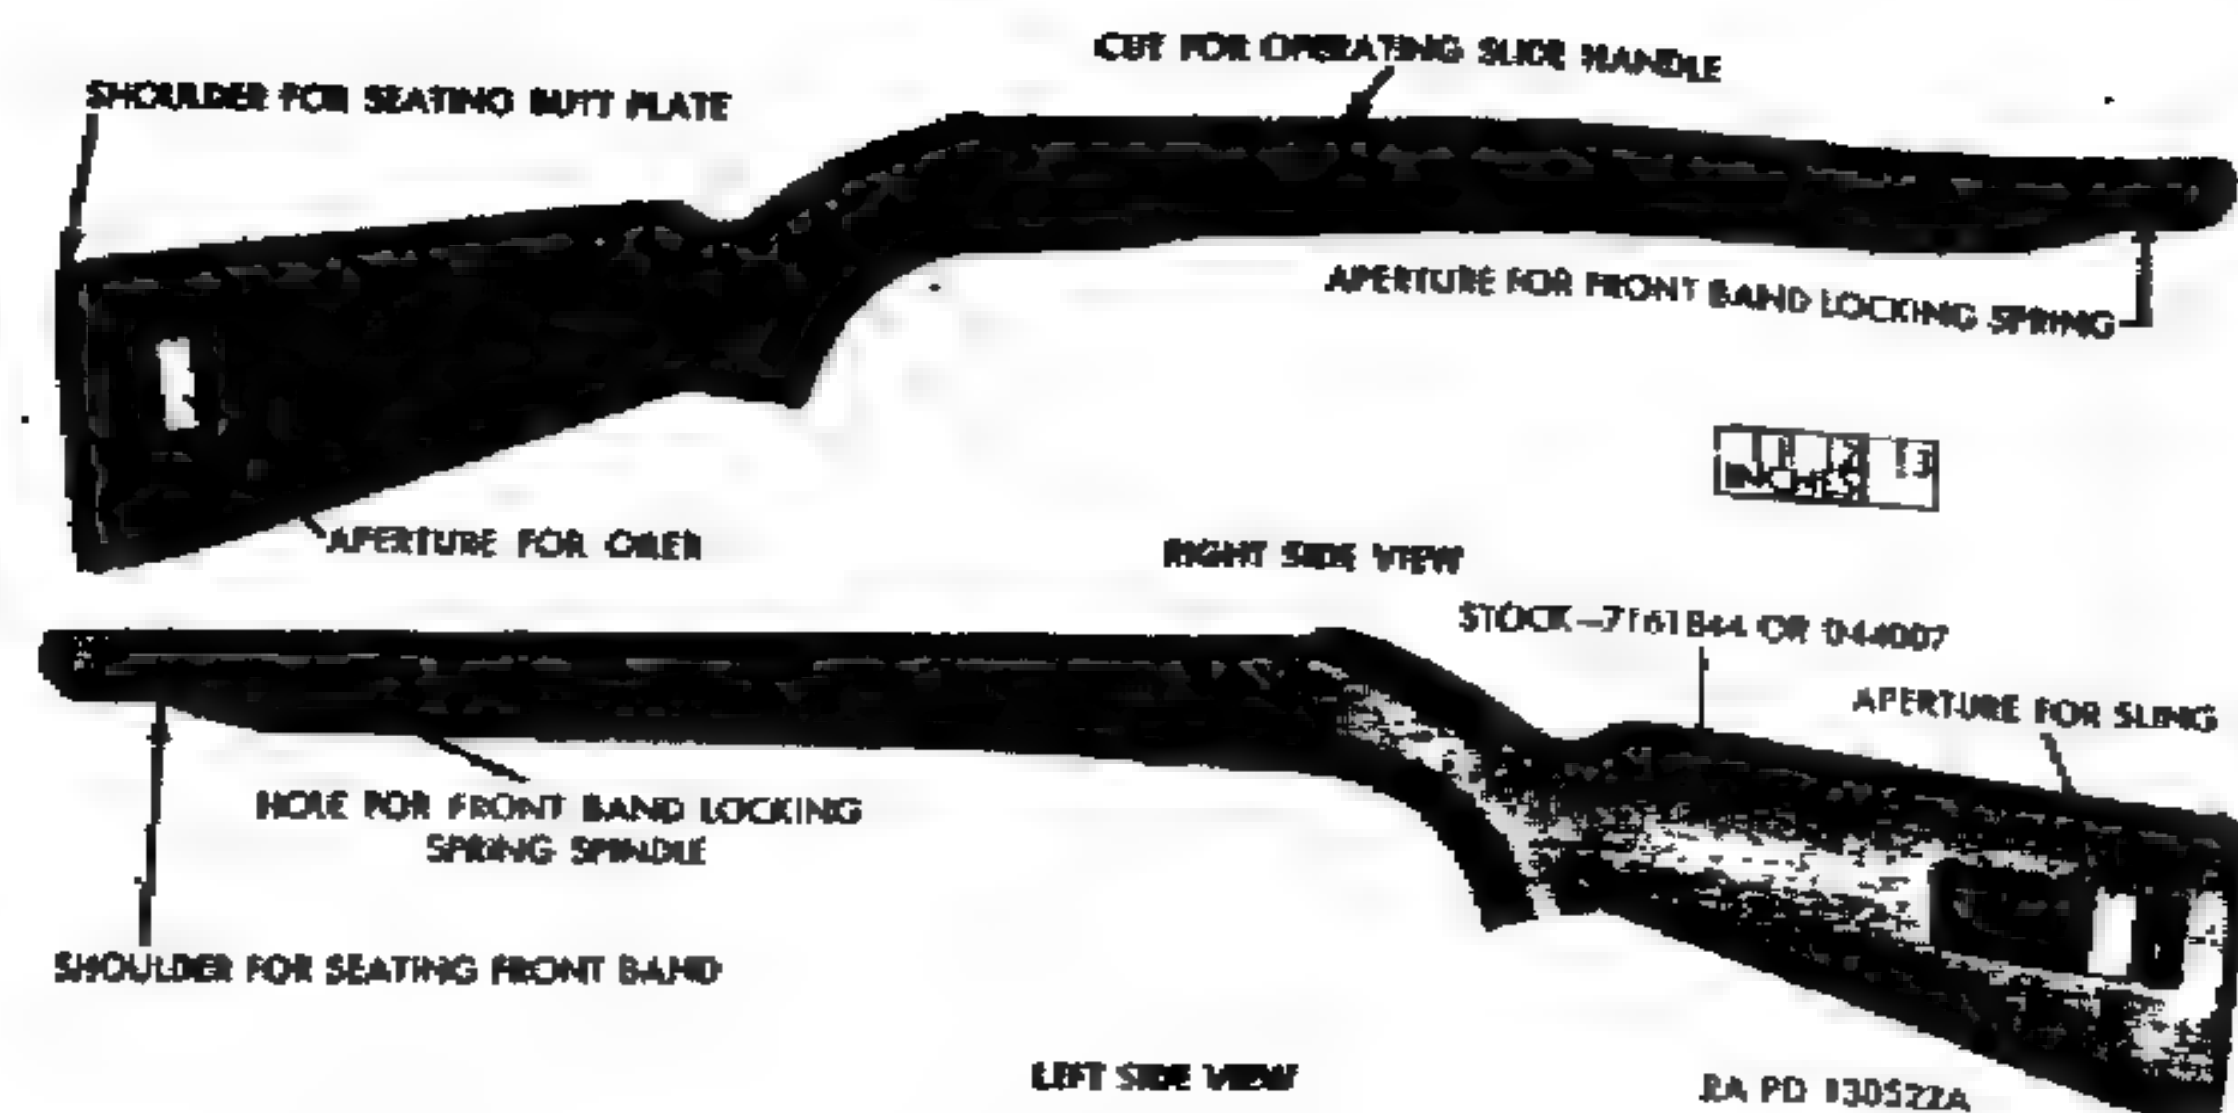

Figure 96. Stock showing apertures—carbine M1.
a. *Stock*. Inspect stock for cracks, scoring, chipping, blemishes, and excessive dryness. Inspect cuts and apertures (fig. 96) for chipping and burrs, for wear due to interference with moving parts, and for excessive friction in assembling.
- (1) Inspect butt plate for deformation, burrs, fit, and looseness on stock. Check butt plate screw for looseness and check threads in stock for stripping. The butt plate screw must fit firmly in stock.
- (2) Protrusion of butt plate beyond edge of stock is acceptable in rebuilt weapons unless more than approximately one-half of the thickness of the metal extends beyond the edge of the
- (c) Point on right side of stock and hand guard where operating slide bar passes through to right side of receiver (fig. 96).